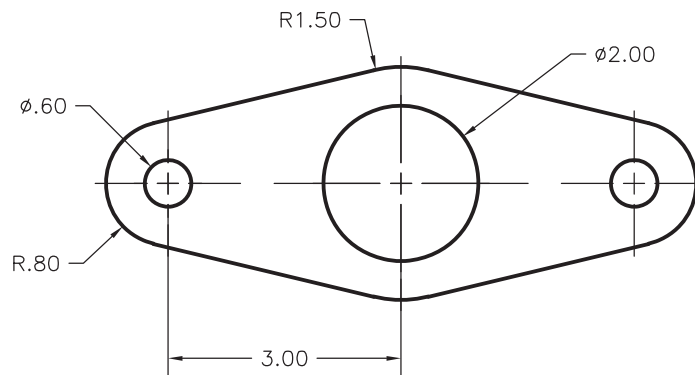

Fig. 29-4
3. Dimension the gasket as shown in Fig. 29-4. Set the arrowheads to **Integral** and the text font to **Times New Roman**. Display alternate units below the primary values and in the same unit format. Save the drawing as **ch29gasket.dwg**.